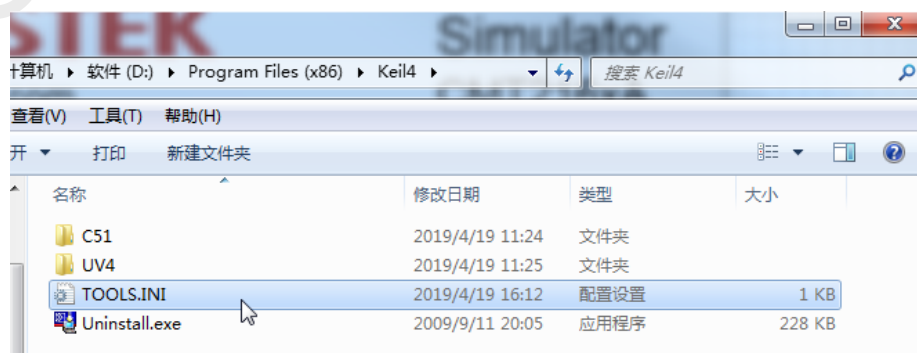

Figure 2-5. TOOLS.INI File Path
- Step 2: Modify the TOOLS.INI file in the Keil installation directory to add the CMT218xA Simulator debugger to Keil's debugger selection list. As shown in Figure 2-5 and 2-6.